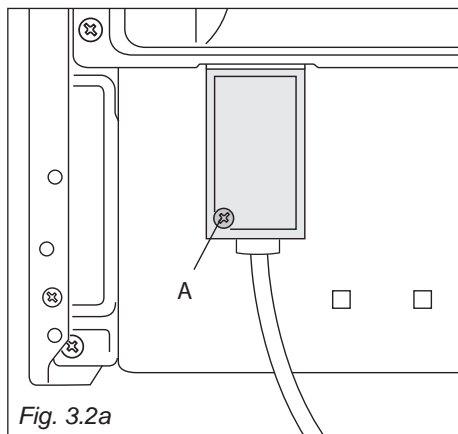

Fig. 3.2a
- Remove the screw securing the cover “A” on the rear of the cooker (fig. 3.2a).